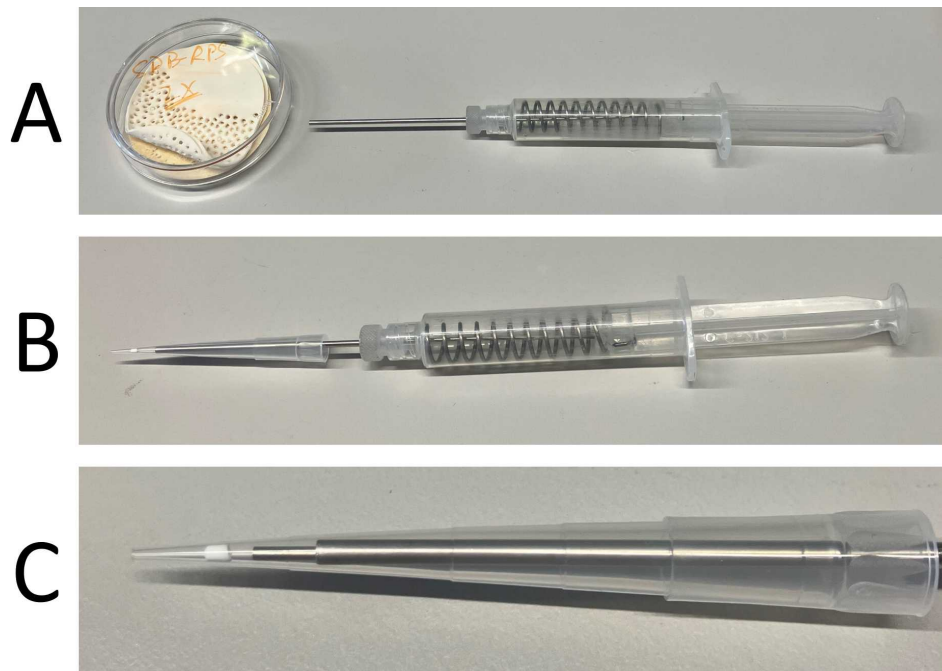

Figure 10. A: Punch the disks with the syringe-like tool. B and C: inject the cut piece into the tip of a P200 pipette tip.
Fix the disk with 5-6 empty injections. **(Fig. 10)**
Appropriately assemble the tips rack above the compatible deep-well plate, and make sure the tips are in the well **(Fig. 10, 11A)**. Use tapes to fix the racks.
Figure 10. Plates and racks used for holding StageTips during washing and elution. A. deep-well plate to collect waste liquid; B: a rack to hold StageTips; C: a rack to hold capless PCR tubes for collecting peptides from elution.
- 16.5 Discard the liquid in the deep-well plate. Again, appropriately assemble the tips rack above the compatible deep-well plate, and make sure the tips are in the well (**Fig. 10, 11A**). Use tapes to fix the racks. Add 200 μL of wash buffer 1 to the tip. Centrifuge at 750 x g, Room temperature, 00:08:00 .
- 16.6 Discard the liquid in the deep-well plate. Again, appropriately assemble the tips rack above the compatible deep-well plate, and make sure the tips are in the well (**Fig. 10, 11A**). Use tapes to fix the racks. Add 200 μL of wash buffer 2 to the tip. Centrifuge at 750 x g, Room temperature, 00:08:00 . Discard the liquid in the deep-well plate.
Appropriately assemble the tip rack above the compatible collection rack with capless PCR tubes. **Make sure the tips are in the PCR tubes (Fig. 10, 11B).**